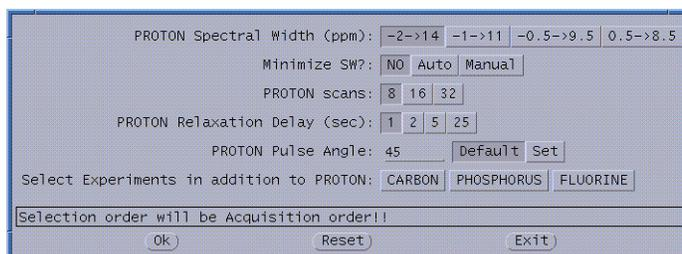

Figure 45. CustomQ HCPF 1D Acquisition Options
5. Click on **OK**, then **Exit**. The window shown in **Figure 45** opens.